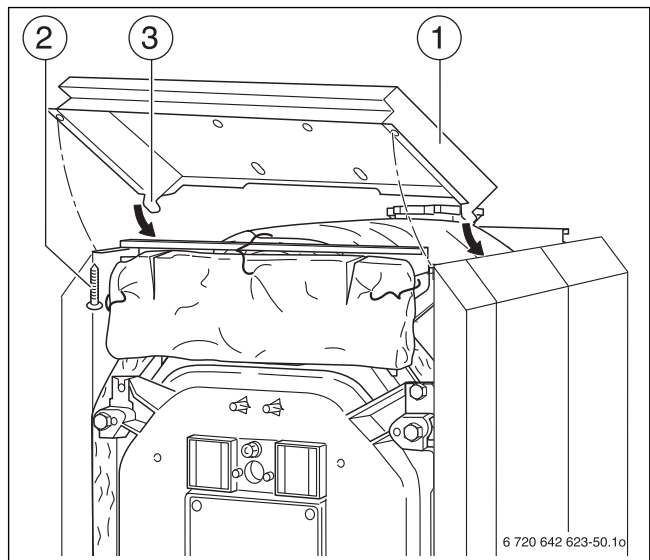

Fig. 52 Fitting the front cover
- ▶ Attach the front cover (→ Fig. 52, [1]) to the front side panels with the two hooks (→ Fig. 52, [3]).
- ▶ Screw the front cover to the longitudinal rails from below with two self-tapping screws (→ Fig. 52, [2]).